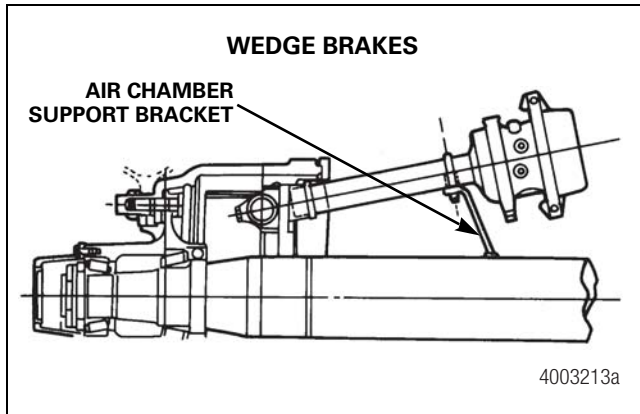
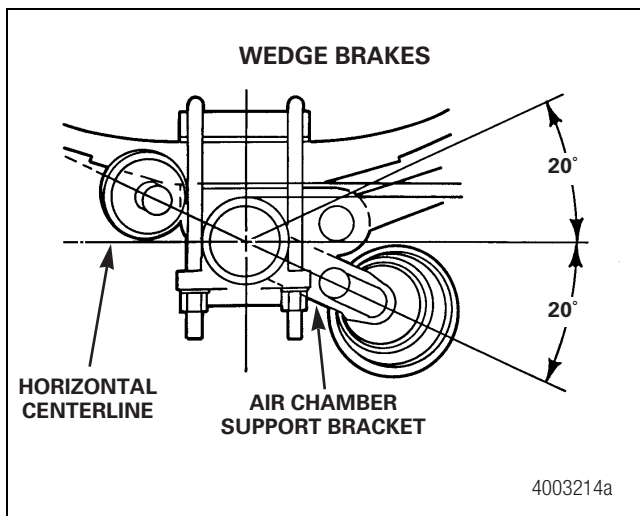

Figure 6.11
Figure 6.12
- **Wedge brakes with air chamber tube support brackets:** When wedge brakes are equipped with air chamber support brackets, the centerline of the brackets must be located within 20 degrees of the axle horizontal centerline. Figure 6.11 and Figure 6.12.